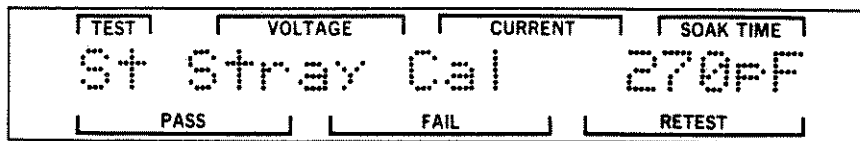

Figure 5-9. Stress Test Stray Calibration Screen
STEP 6. Display the Stress Test Stray Calibration screen by entering the Configure mode and pressing the UP or DOWN pushbutton as many times as is necessary. For information on entering the Configure mode, refer to Entering the Configure Mode, Section 3.4.5.1. Figure 5-9 is an example of the Stress Test Stray Calibration screen.